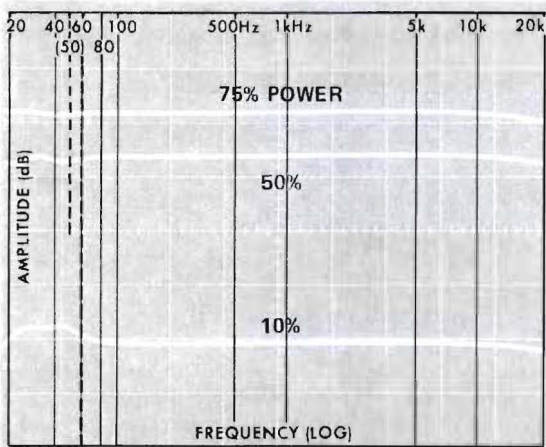

Figure 14 Frequency Response at 10%, 50% and 75% Power
6. Different power levels should also be checked such as 10% (-10 dB), 50% (-3 dB), and 75% (-1.25 dB) to see if variations occur in the response (Figure 14).